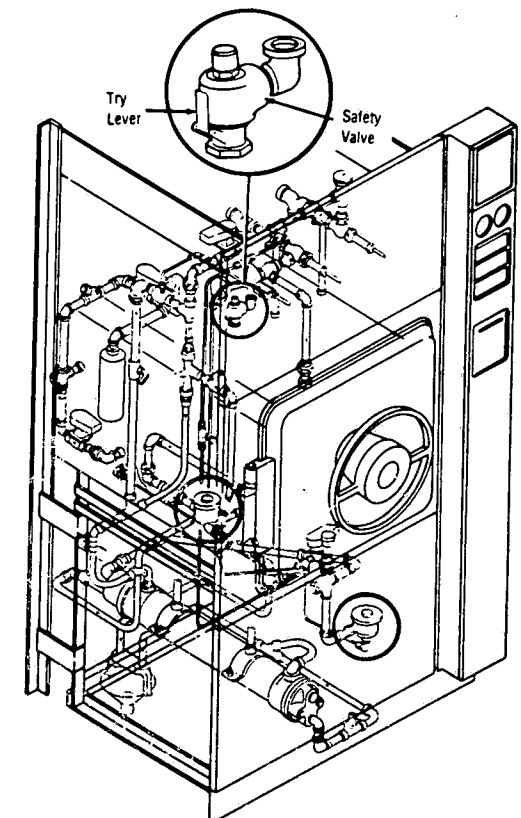

Figure 4-4. LOCATION OF STEAM TRAPS AND SAFETY VALVES.
2. Check chamber safety valve (see Figure 4-4) as follows: